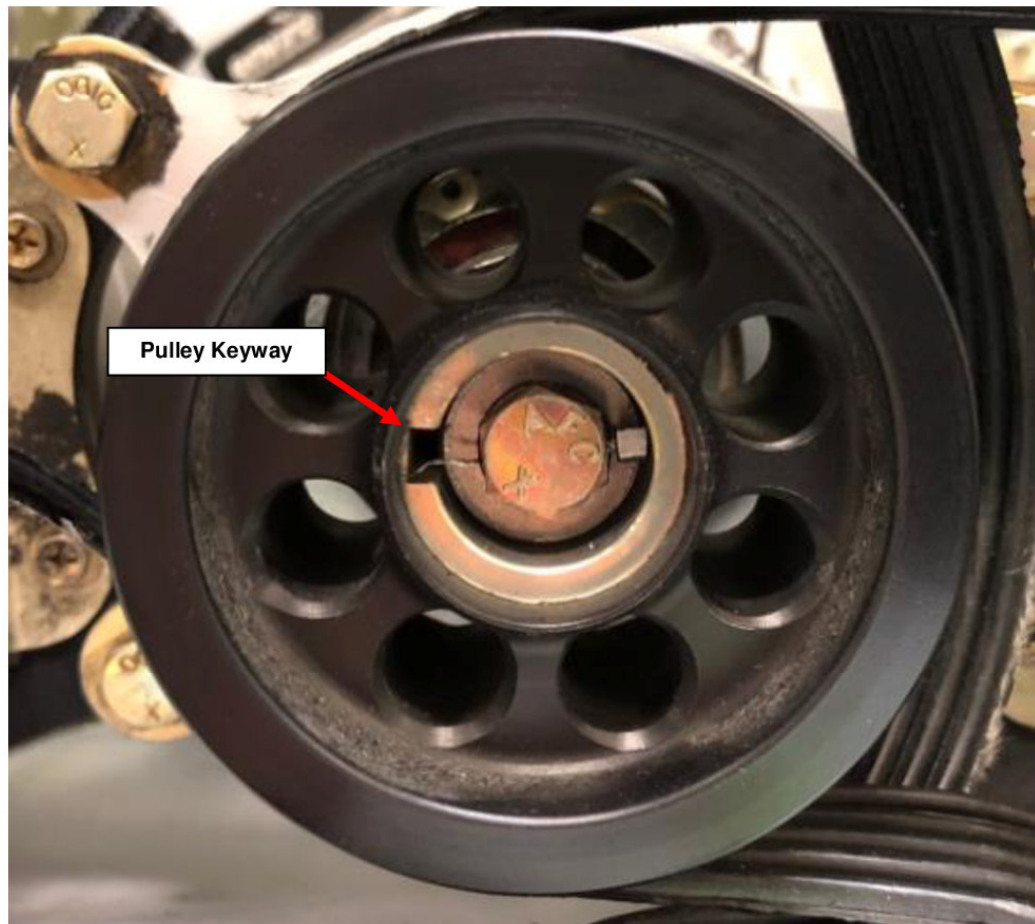

Figure 2: Drive Pulley Washer Not Present (Belt Cover Removed)
- 4.2 Inspect to verify installation of drive pulley washer. In Figure 2 below, the Drive Pulley Washer is not present. When the washer is not present, note that the pulley's keyway is visible. In Figure 3, the Drive Pulley Washer is shown installed.